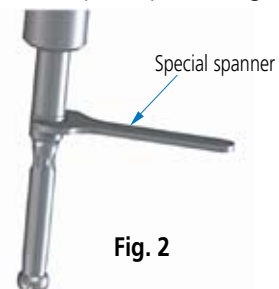

Fig. 2
1. When replacing the contact point, use the special spanner. (Fig. 2)
2. If it is suspected that contamination is present inside the measuring section, remove the contact point using the special spanner, and clean the contact point by dipping into an alcohol solution. After cleaning, dry completely and apply a thin layer of micrometer oil (Order No.207000) to the contact point. (Fig. 2)